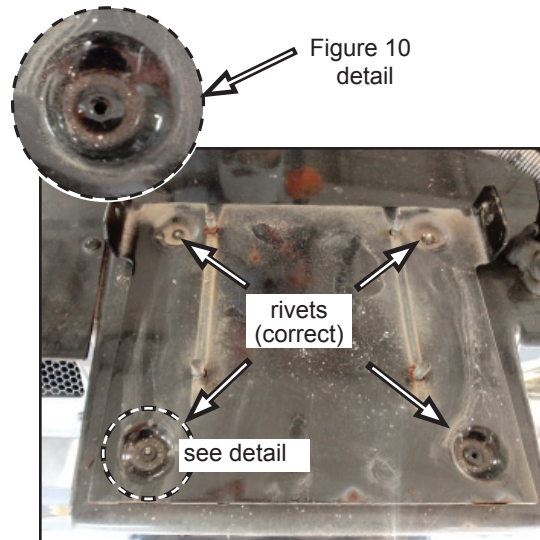

Figure 10
- If rivets are found (see Figure 10), proceed to Step 16.